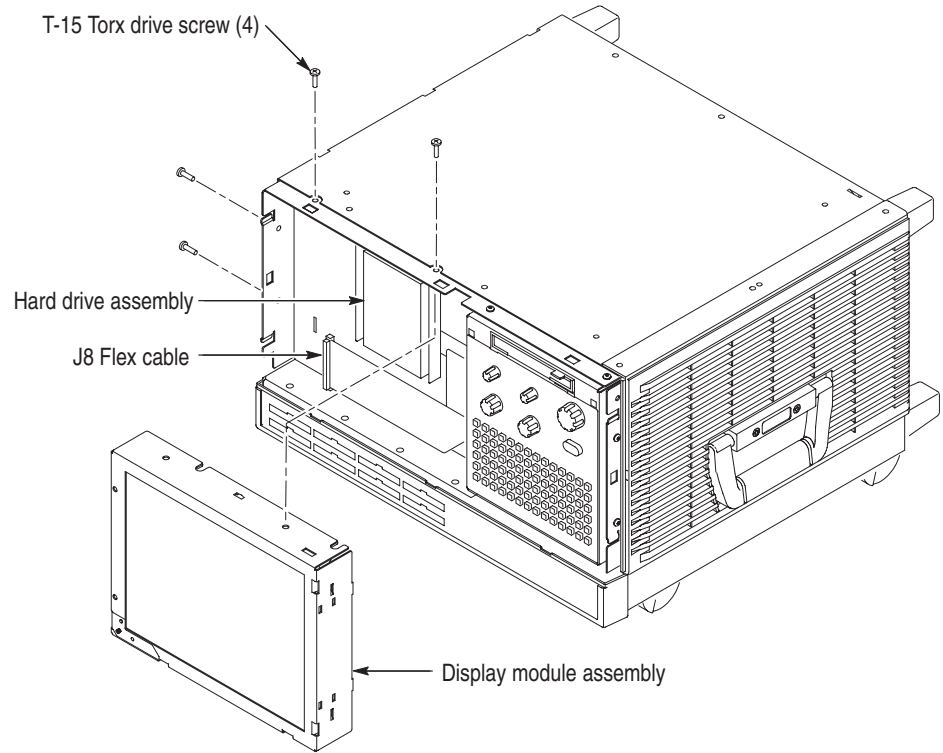

Figure 2–2: Flat panel display assembly removal
3. Install the screws that attach the flat panel display assembly to the logic analyzer. Refer Figure 2–2 on page 2–5.